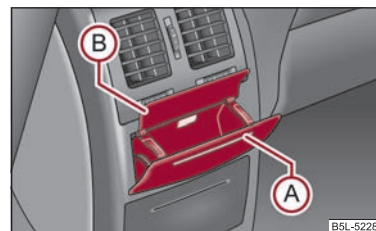

Fig. 86 High centre console: Rear ashtray
- Press on the top part of the cover of the ashtray in area (A) ⇒ fig. 86.